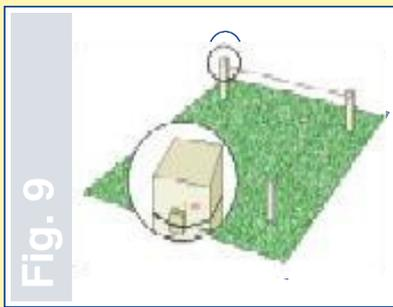

Fig. 9
- upon their proper vertical setting and stabilization (as below) a string should be rolled out on the outside part of the fence and spacer washers of 1 cm thick (all washers of the same thickness) should be placed under the string, which shall facilitate setting of other posts in the same line - Fig. 9